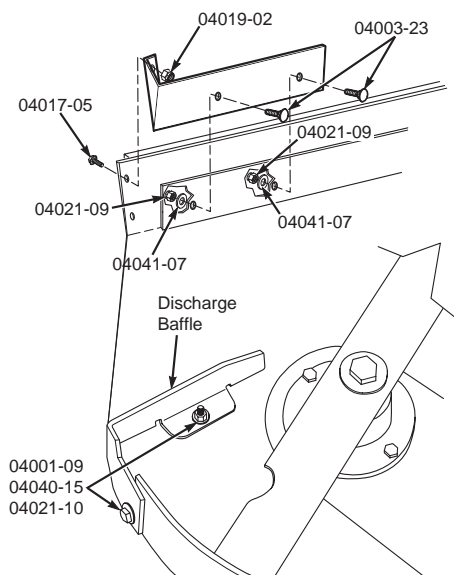

FIGURE 5-2
3. When installing this grass catcher on a machine with a serial number below 8619999, you will need to remove the discharge baffle from the bottom of the cutter deck. See Figure 5-2. Replace the discharge baffle with the new baffle provided with this grass catcher. Secure using the following hardware: